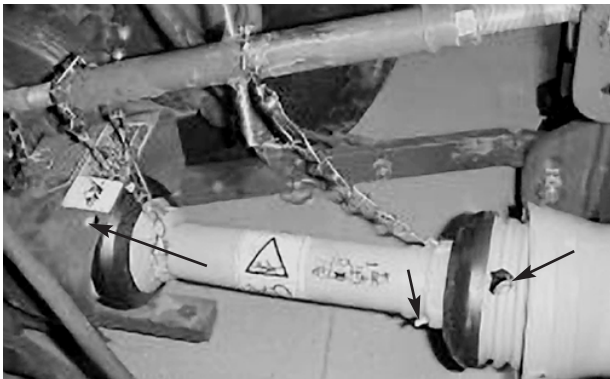

Figure 23
LUBRICATE DAILY—PTO shaft (4) (Fig. 23).